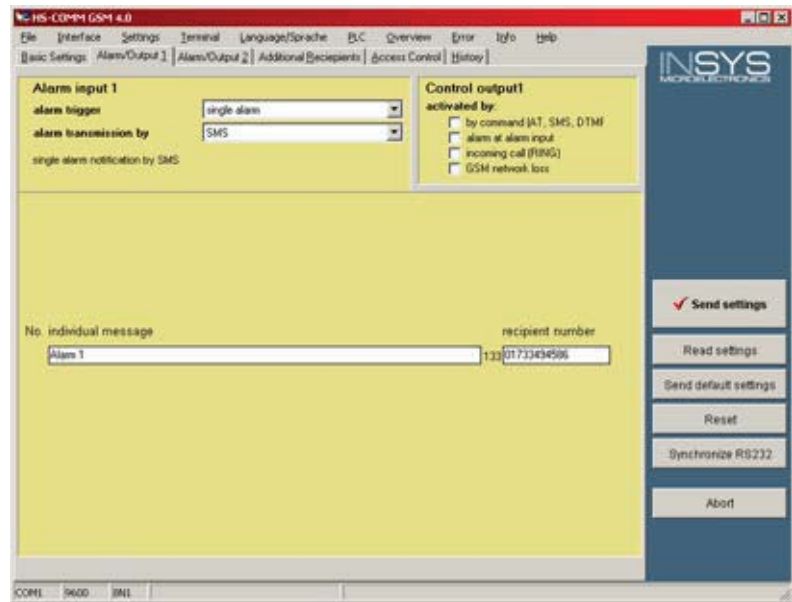

Fig. 197: GSM modem - alarm/output 1
2. Set up the modem as shown in (Fig. 197) on the “Alarm/Output 1” tab.